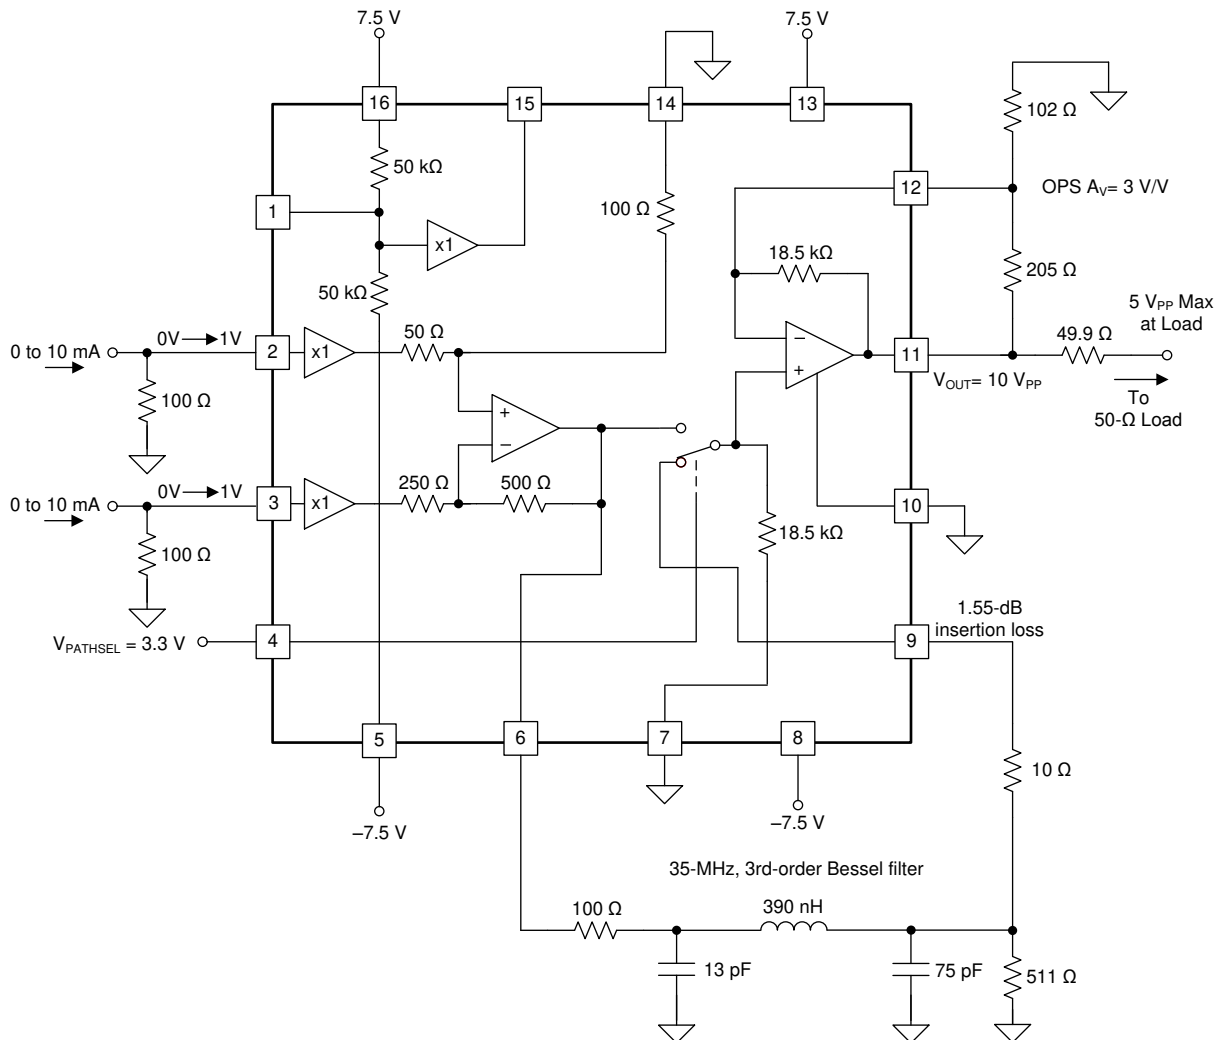

Figure 9-6. Driving a 10 V_{PP} Pulse Output into a 100 Ω Load With a 35 MHz External Interstage Bessel Filter
Figure 9-6 shows an example design using the THS3215 to deliver a 10 V_{PP} maximum voltage from a DAC input, and includes an example external, third-order, interstage Bessel filter. Some of the salient considerations for this design include:
5. For 10 V_{PP} maximum output, the ±7.5 V supplies shown in Figure 9-6 give adequate headroom in the OPS output stage. The operating maximum supply of 15.8 V requires a 5% tolerance on these ±7.5 V supplies.